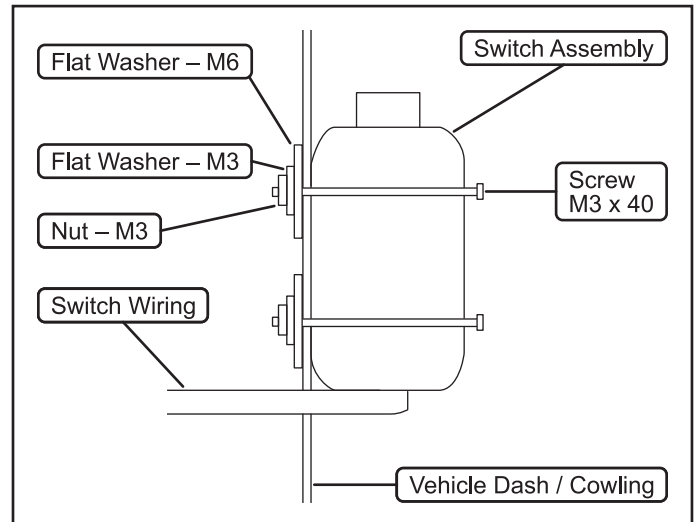

Figure 12. Optional switch mount instructions
- If your winch includes a handlebar rocking switch; replace the handlebar mount hardware with the included hardware kit DASHHW-OT to mount to the dash. See figure 12.